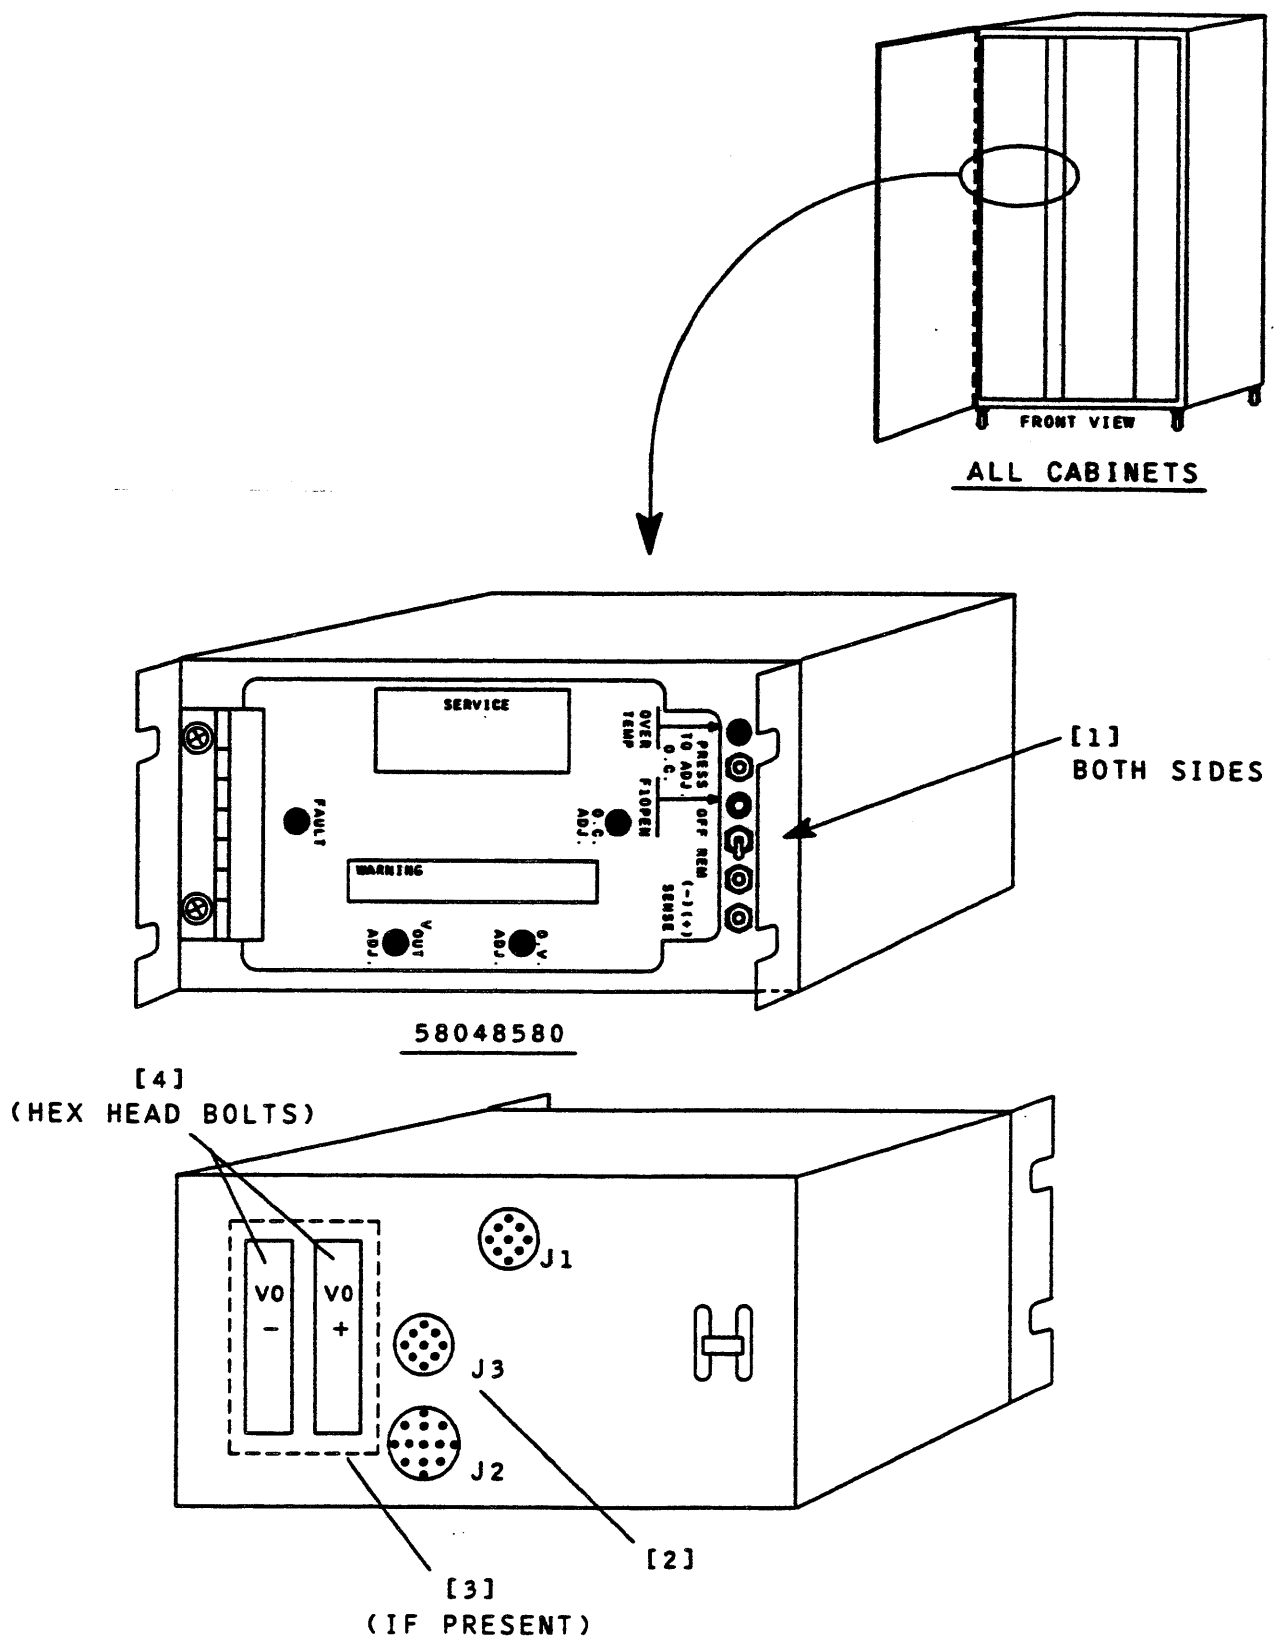

FIGURE 2.34-1. POWER REGULATOR REMOVAL/INSTALLATION
5. Using a cross-tip screwdriver, remove faulty regulator's front retaining hardware (Figure 2.34-1, [1]).
6. Disconnect regulator's rear connector plugs (Figure 2.34-1, [2]).
7. Loosen captive screws on electrical bus protective shield and remove shield (Figure 2.34-1, [3]).
8. Using a cross-tip screwdriver, remove electrical bus retaining hardware (Figure 2.34-1, [4]).